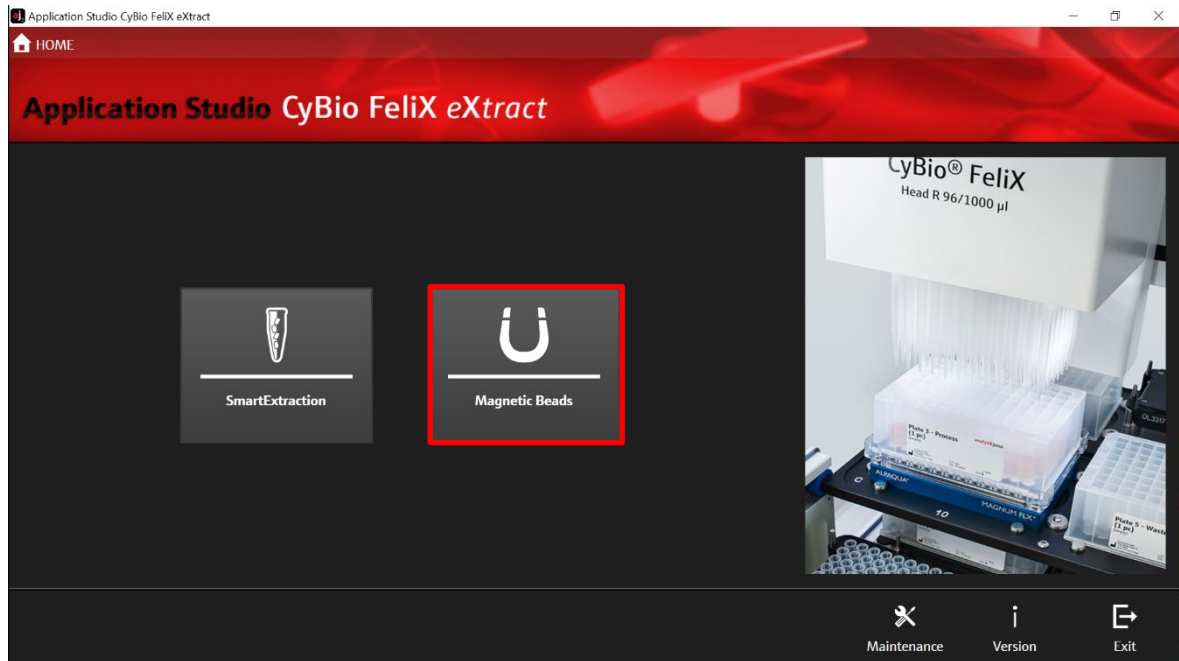

Figure 12: Selection of the Magnetic Beads protocol.
4. Select "innuPREP Virus TS RNA Kit 2.0 – FX" (→ see Figure 12).